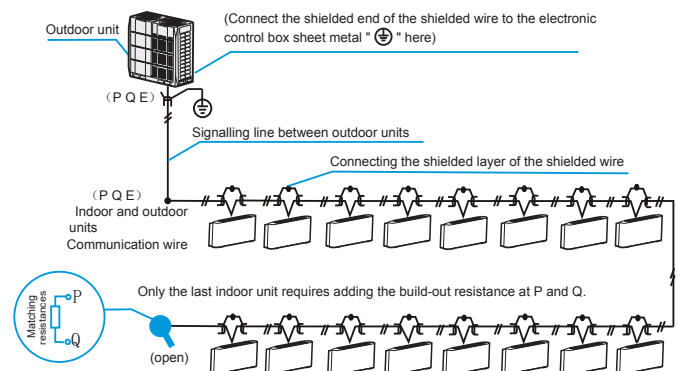

Figure 6.6
- The communication wiring between the indoor and outdoor units should connect one unit after another in a daisy chain from the outdoor unit to the last indoor unit, the shielded layer must be properly grounded and a build-out resistance must be added to the last indoor unit to enhance communication system stability. (see Figure 6.6).